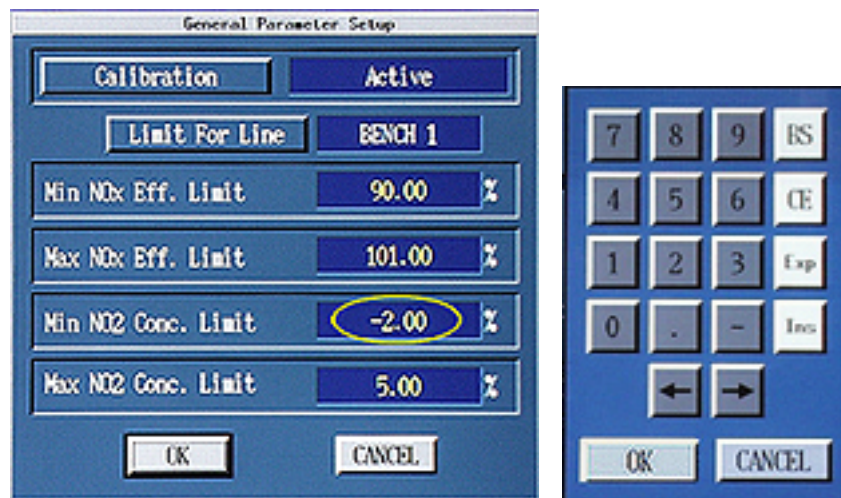

Figure 13
- 119 Verify that the yellow field for “Min NO2 Conc. Limit” is “-2.00.” If it doesn’t, click in the field. See the circle in Figure 13. Use the on-screen keypad to enter “-2.00.”